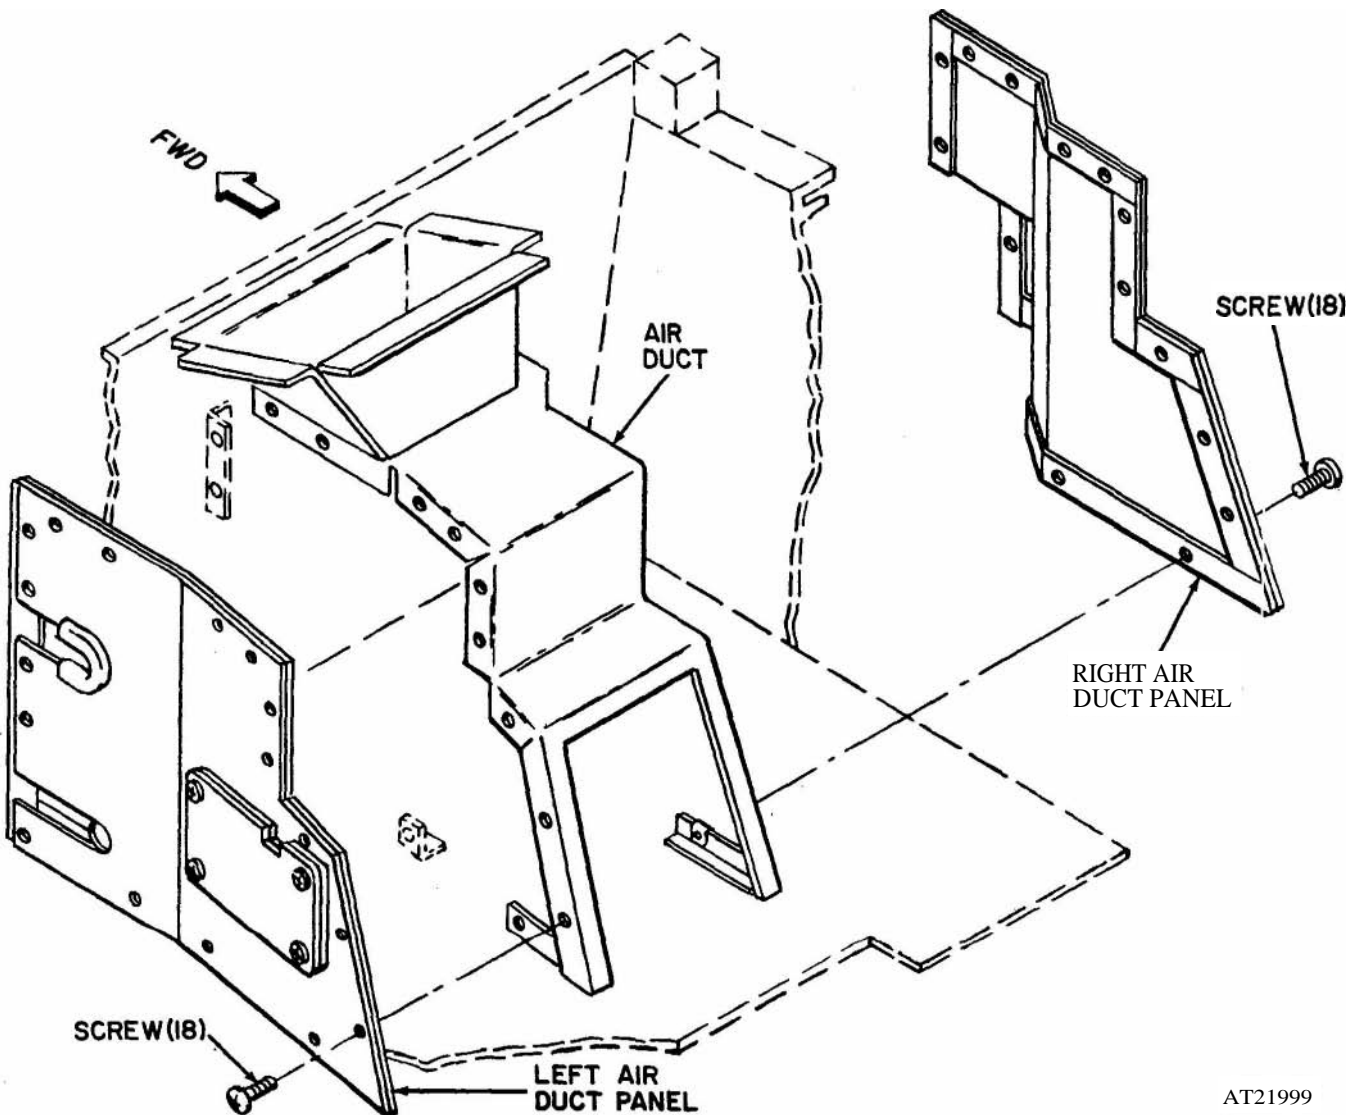

Figure 2-347. Tractor air duct **panel**, removal and installation.
(1) Remove air duct panel (right- or left-hand) secured to air duct by removing eighteen screws (fig 2-347).
(1) Position air duct panel (right- or left-hand) to air duct and secure with eighteen screws (fig 2-347).